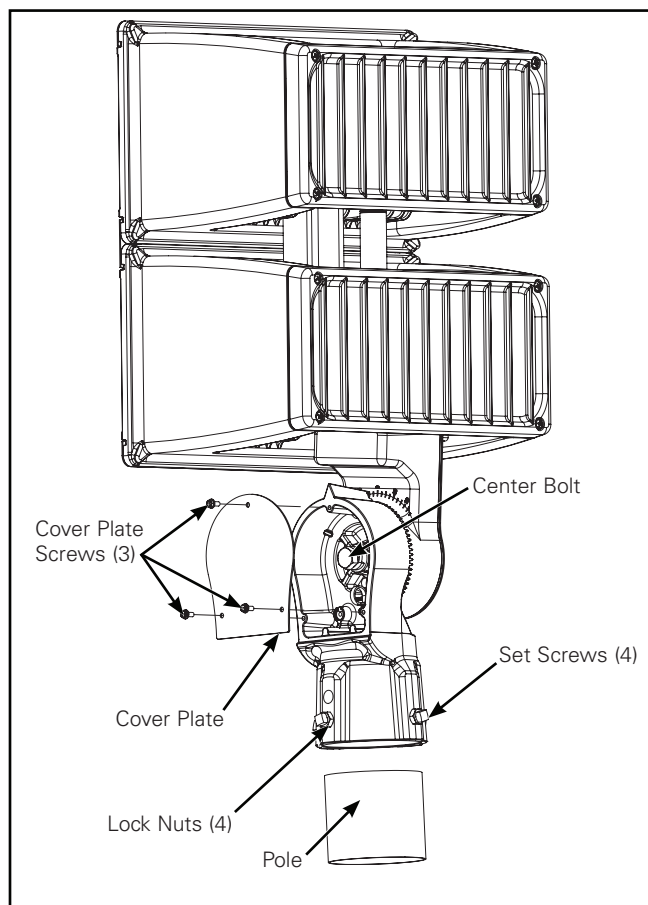

Figure 2.
### Slipfitter Mounting (Figure 2.)
2. Remove (3) cover plate screws and cover plate with #2 Philips screwdriver. (Figure 2.)
6. Loosen (4) set screws and slide the slipfitter onto pole or mounting bracket.
7. Position luminaire into the desired direction and tighten (4) set screws to 10 ft-lbs. (Figure 2.)
8. Tighten lock nuts to 15 ft-lbs. (Figure 2.)